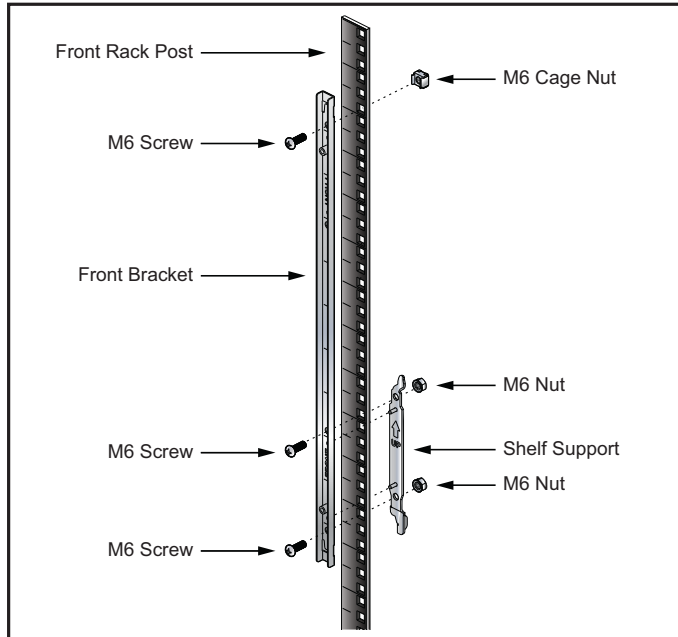

Figure 3-4: Left Front Post Assembly: Four Post Rack Mount
Step 1 Attach the front bracket and shelf support to the left front rack post, as shown in Figure 3-4 on page 12. An up arrow is printed on the shelf support to indicate its proper orientation.